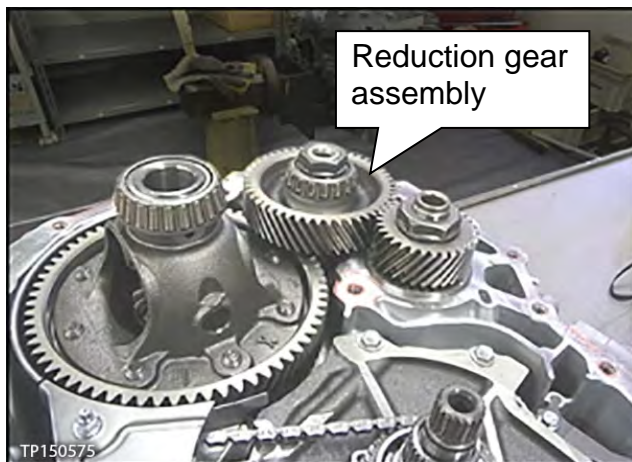

Figure 6C
5. Carefully remove the reduction gear assembly (Figure 6C).